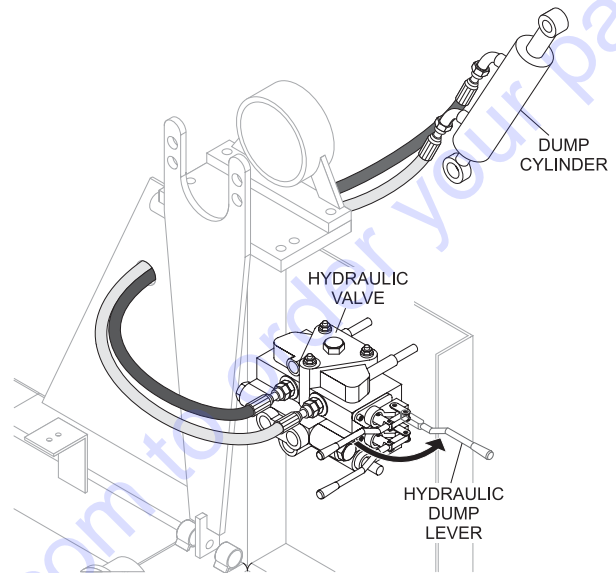
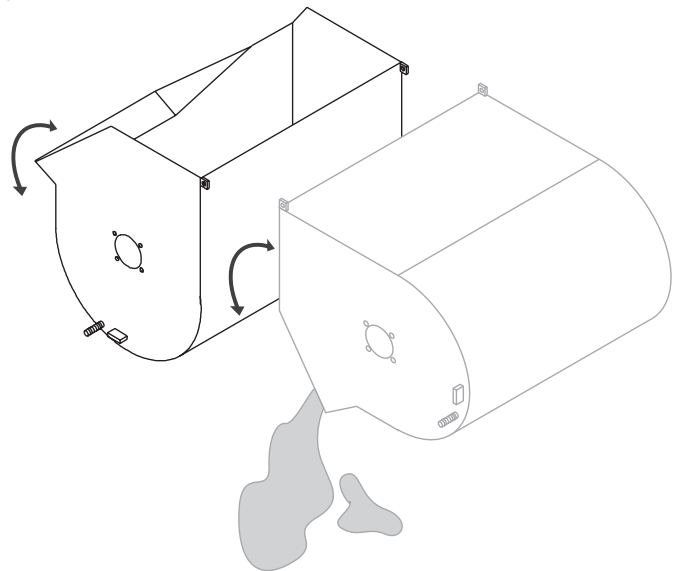

Figure 24. Hydraulic Dump Lever
Figure 25. Hydraulic Dump
1. If operating a mixer with hydraulic dump capability, pull hydraulic dump lever (Figure 24) outward to place drum in dump position (Figure 25).